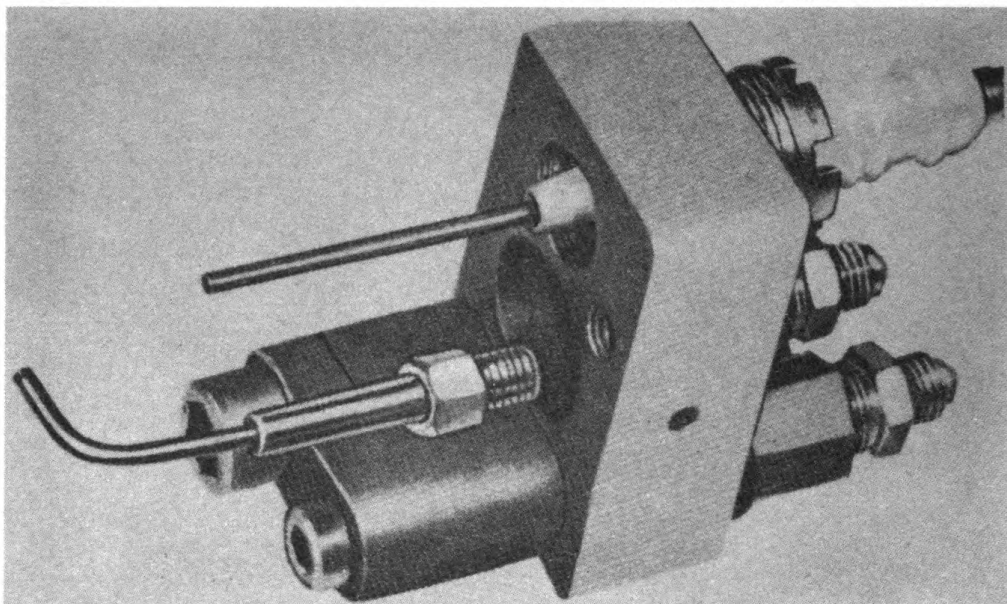

Fig. 70. Atomizer, nozzle, spark plug, and ground electrode on atomizer mounting plate.
89. ATOMIZER ASSEMBLY (figs. 70 and 71).